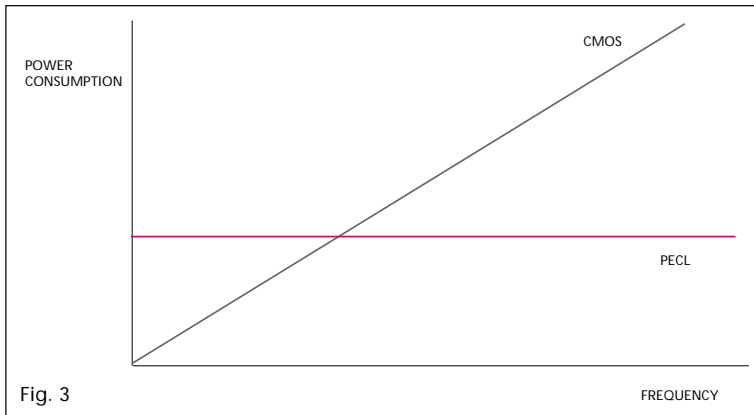

Fig. 3
- PECL offers low power supply consumption at high frequencies (see Fig. 3). The power consumption stays constant with frequency. By contrast, CMOS power consumption starts low at low frequencies, but steadily rises as the frequency rises. CMOS power consumption is equal to PECL power consumption at 65 MHz, after which it continues to rise sharply.